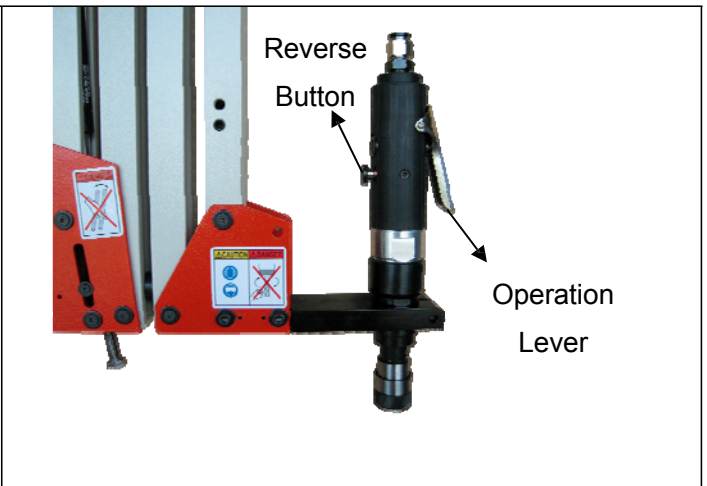

Figure 8-2
- After tapping to the required depth, press the reverse button while also depressing the operating lever. The tap will reverse out from the hole (see Figure 8-2).